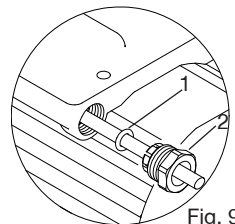

Fig. 9
To enable correct assembly of the cable gland the 'O'-ring (Fig. 9 item 1) must be placed over the cable before the clamping insert (Fig. 9 item 2) can be tightened.